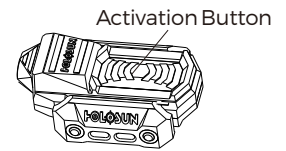

Fig 9
4. Remote cable switch: Functions the same as the activation button on the tailcap of the RAID from a more ergonomic position. (See Fig 9)